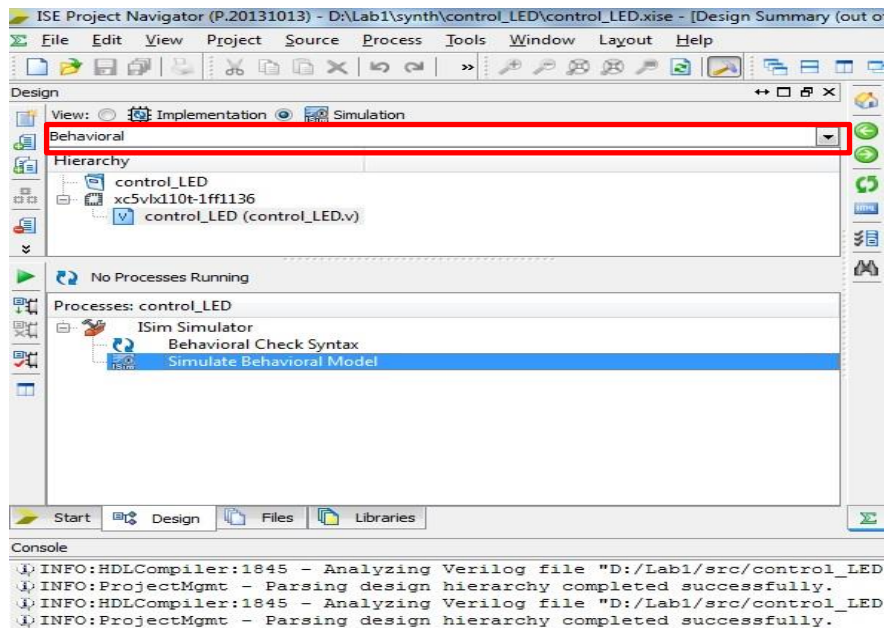

Fig.4. Simulation View
22. Change to **Simulation** view to see Fig. 4. Select **Behavioral** from drop down menu (red box)
36. Go back to **Simulation** view (Fig.4) and select **Post route** from the drop down menu (red box in Fig.4). You should see Fig. 9.